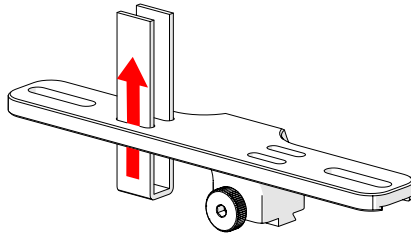

Fig. 188 - Insert velcro straps
1. Slide the velcro strap through the bracket's holes (Fig. 188).